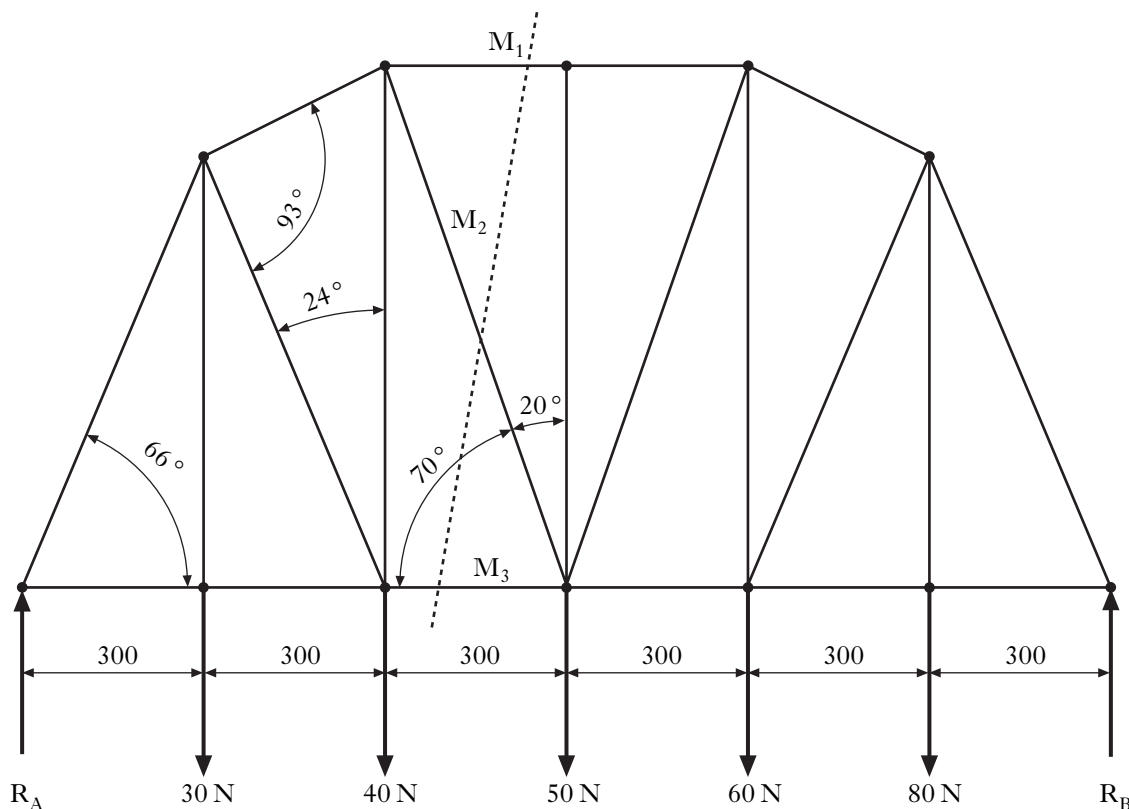

Figure Q7(a)
7. The free-body diagram of a scale-model prototype frame-bridge is shown in Figure Q7(a).
- (a) For the loads shown in Figure Q7(a), calculate the reaction forces R_A and R_B . 2